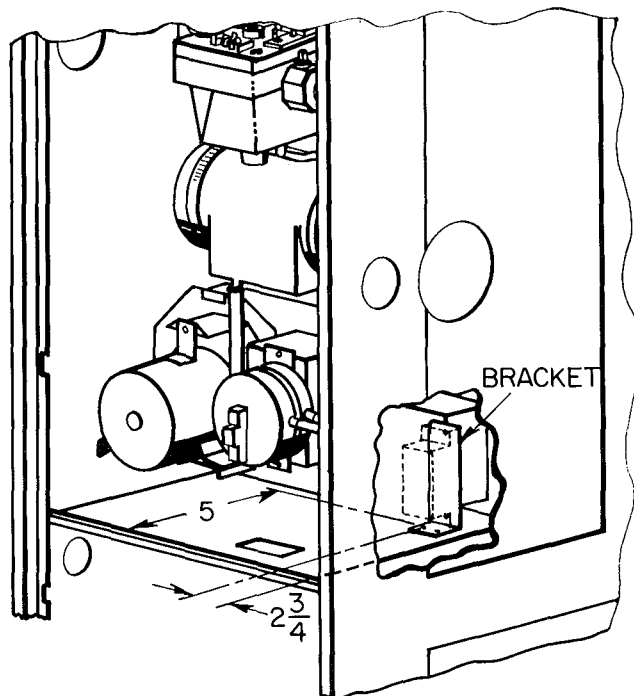

Figure 4 — Location of Timer Module (in.)
1. Position lockout module mounting bracket on blower shelf as shown in Figure 4.
2. Center-punch and drill two 1/8-inch holes in blower shelf. See Figure 4.